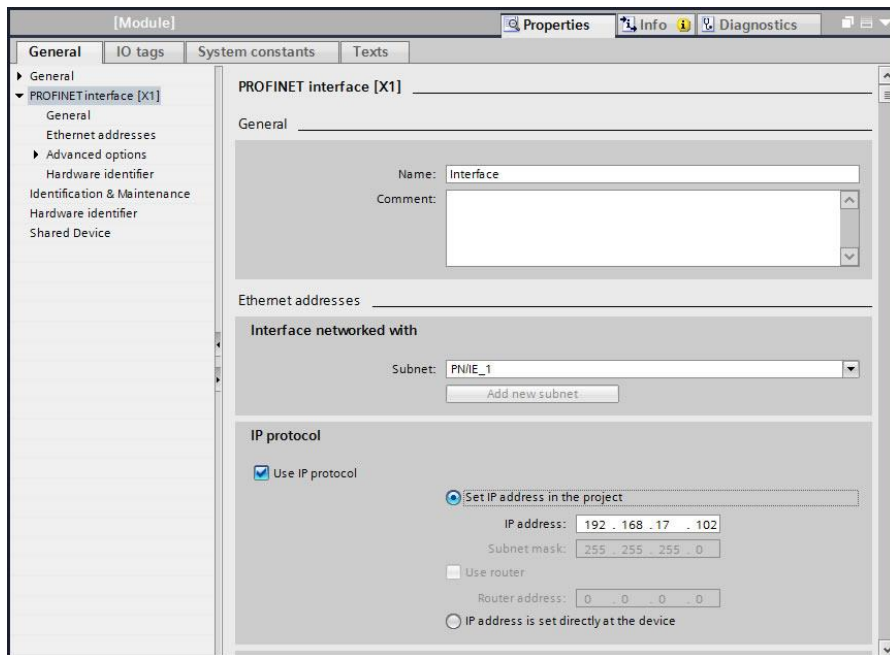

Figure 69: Assign Unique Compatible IP Address
1. Select the device and navigate to the **Properties** tab. Select the **PROFINET interface [X1]** node. Assign a unique and compatible **IP address** for this device as shown in Figure 69.